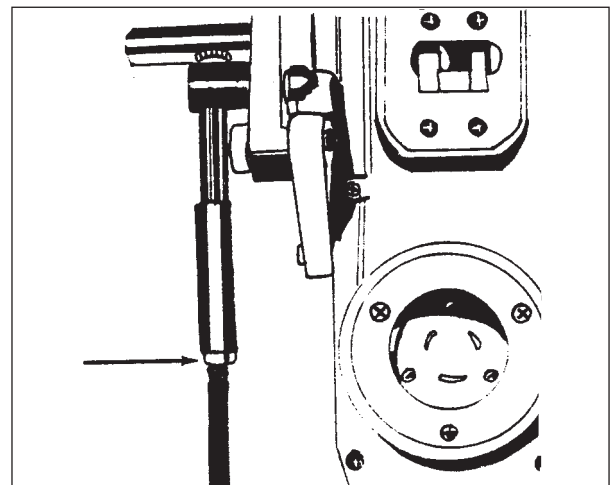

Figure 9
1. Loosen the locknut on the control rod. See figure 9.